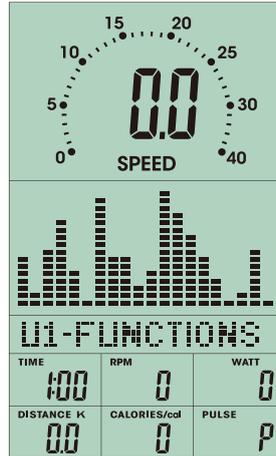

FIGURE 27
4. After starting (FIGURE 27~29), TIME will count down. When TIME reaches 0, the screen will flash and the alarm will sound. Press any button to stop the alarm.